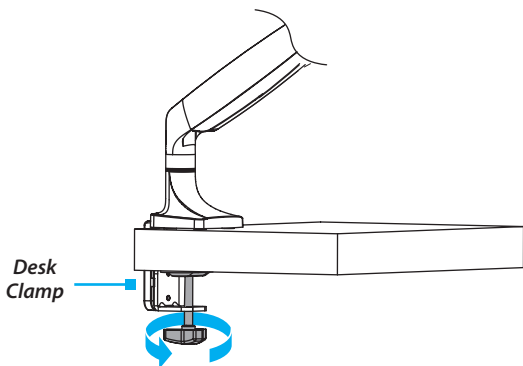

Figure 6
9. Turn the knob clockwise to tighten the **Desk Clamp**. (*Figure 6*)